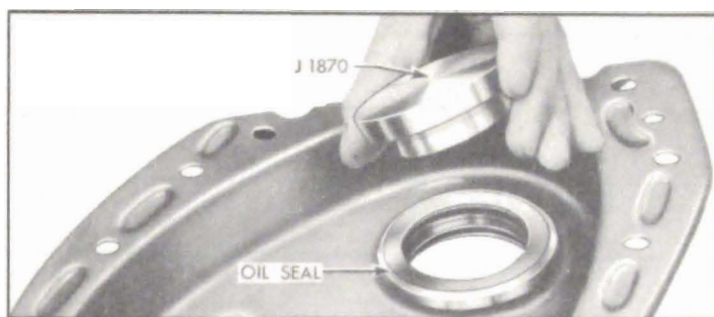

Figure 2-29—Installing Crankshaft Oil Seal
3. Drive oil seal into recess and tight against the gasket, using Oil Seal Driver J 1870. See figure 2-29.